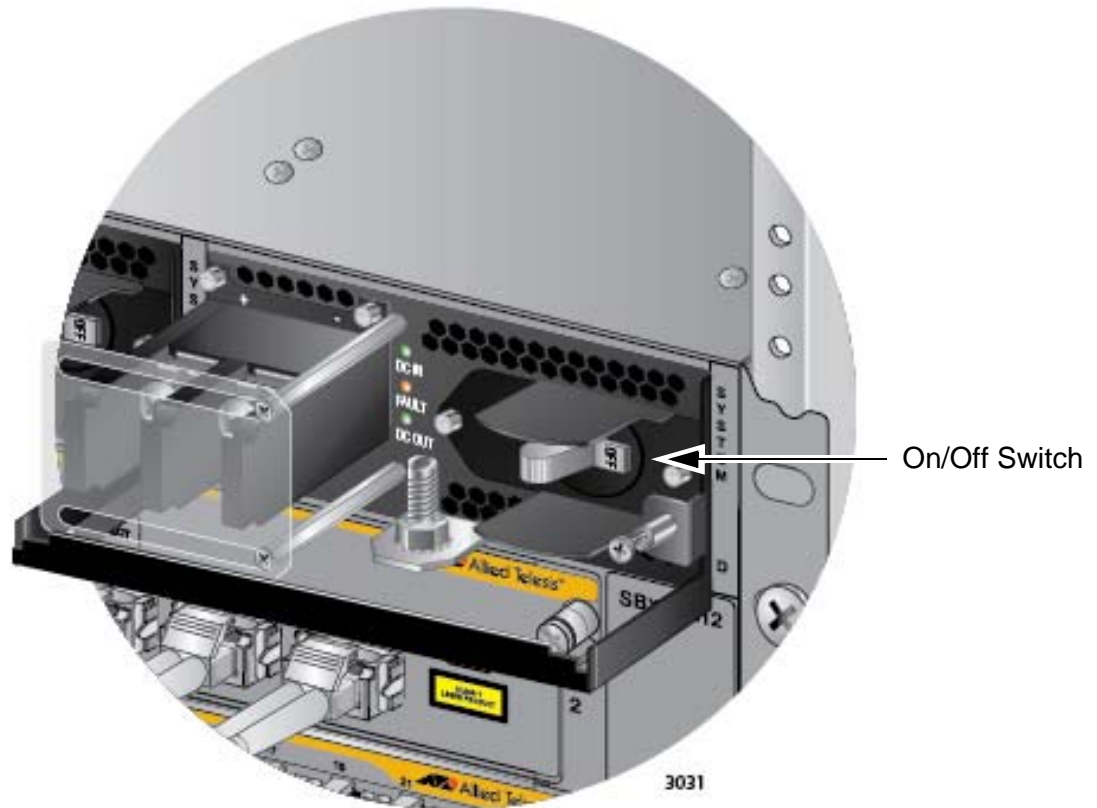

Figure 131. On/Off Switch on the AT-SBxPWRSYS1 DC Power Supply
3. Verify that the On/Off switch on the AT-SBxPWRSYS1 DC Power Supply is in the Off position. Refer to Figure 131 on page 205.
13. Turn the On/Off switch on the power supply to the On position. See Figure 131 on page 205.
2. Verify that the On/Off switch on the AT-SBxPWRSYS1 DC Power Supply is in the Off position. Refer to Figure 131 on page 205.
12. Turn the On/Off switch on the power supply to the On position. See Figure 131 on page 205.
11. Turn the On/Off switch on the power supply to the On position. See Figure 131 on page 205.